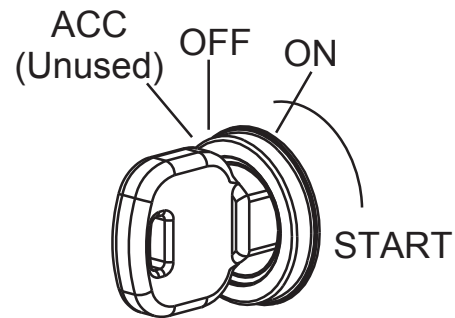

Figure 19. Ignition Switch and Key
2. Insert the ignition key into the ignition switch (Figure 19).